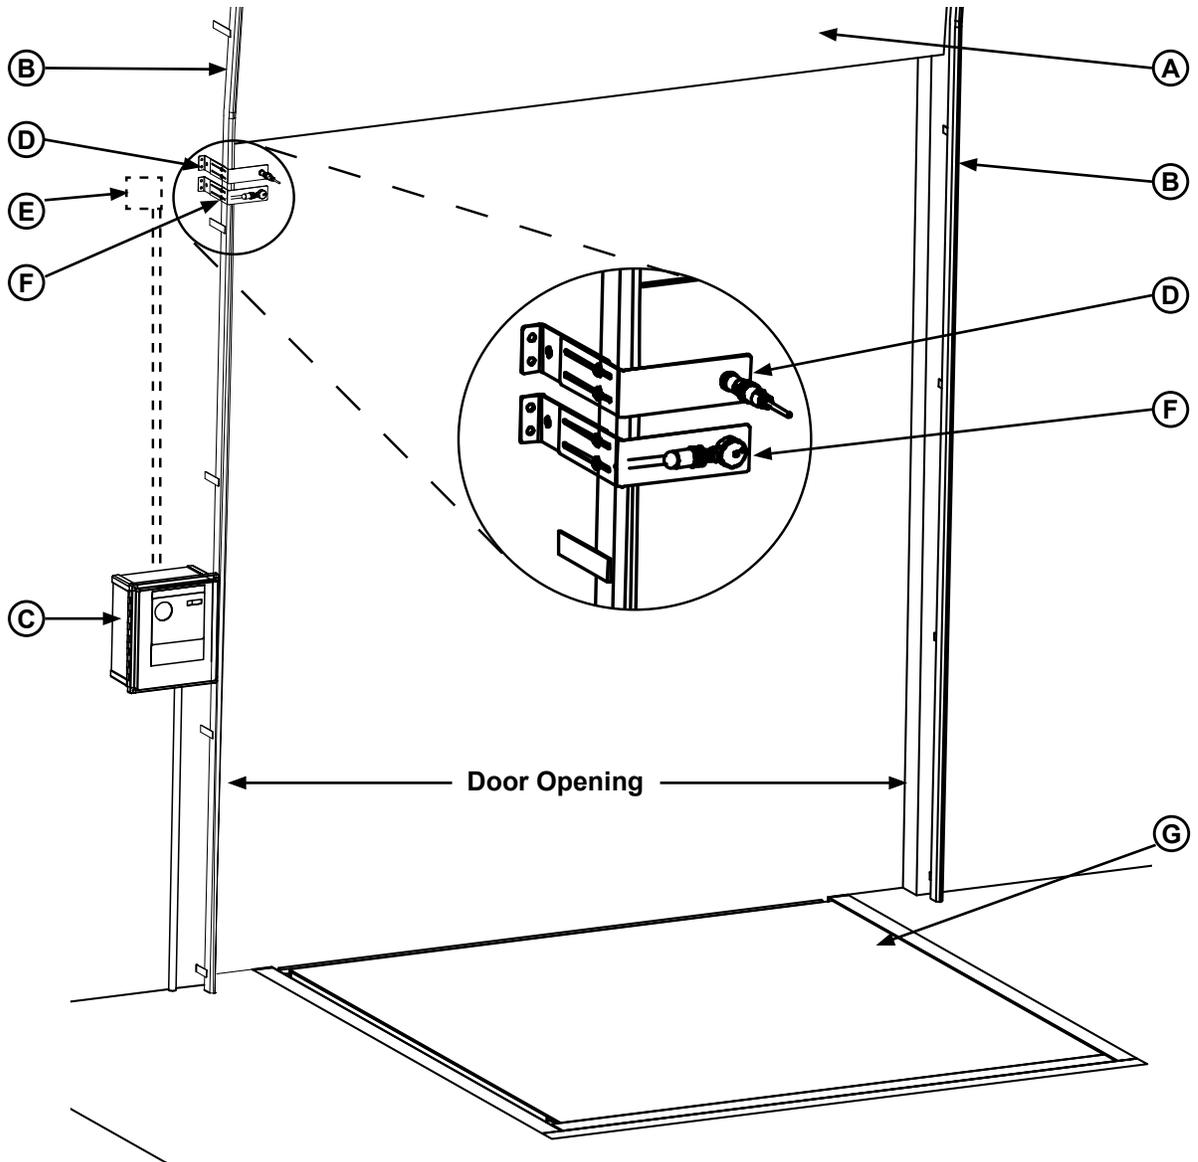

Figure 35
1. Determine a suitable mounting location for the door open sensor and bracket (**D**), according to **Figure 35**.
2. Secure the sensor cable following all applicable local and national codes. See suggested J-Box placement (**E**) near the sensor(s). Reference **Figure 35**.